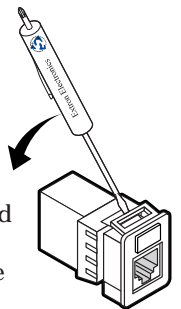

Figure 3-4 — Disconnecting the interior AC cable
3. Through the access hole in the rear of the enclosure, disconnect the 3-prong cable connector on the interior AC cable (figure 3-4).